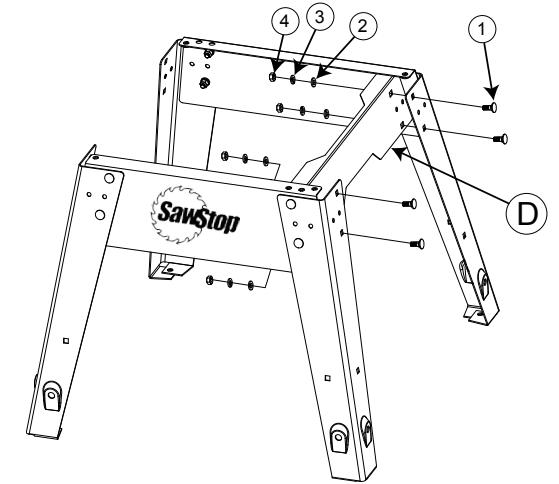

Fig. 4
4. Attach one of the side panels marked D between the front and rear portions of the stand (see Fig. 4). Make sure the legs are in front of the side panel and that the side panel is under the top flanges of the front and rear panels. Bumps on the legs fit into holes in the side panel to align the legs. Use four M8 x 20 carriage bolts, four M8 washers, four M8 lock washers, and four M8 hex nuts to attach the side panel to the front and rear portions. Do not fully tighten the nuts.